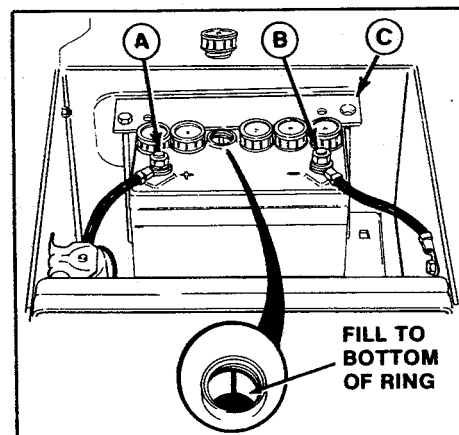

Figure 15. Battery Fluid Level
- c. Fluid must be even with split ring full mark (figure 15). If not, add distilled water.
1. Disconnect the cables from the battery, negative cable first (figure 15).
5. Reinstall battery and clamp (figure 15).